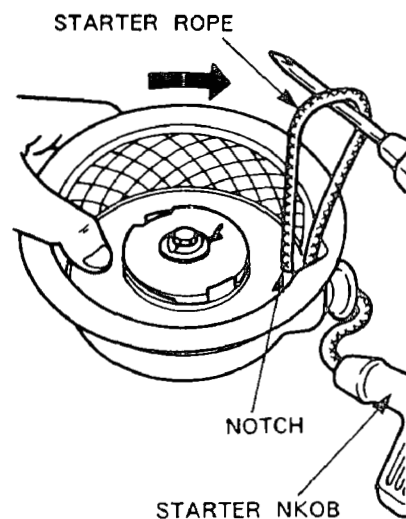

FIG. 79
(1) Remove the recoil starter from the engine with a box spanner.
(2) Pull the starting knob and pull out the starter rope for 30 to 40 cm. Firmly press the reel with a thumb as shown in Fig. 79 so that the reel should not make reverse turn at the place where the reel notch comes to the outlet of starter rope. Pull out the starter rope to the inside of recoil starter with a screwdriver.
- (1) Pull the starting knob 2 or 3 times, and pull out the starter rope a little.
- (2) Pull the starting knob, and pull out the starter rope all the way long.
- a) If the starter rope remains left in the reel or the starter rope does not return at all, immoderate strain is imposed on the spring. So rewind the starter rope 1 or 2 times as per instruction in Fig.79.